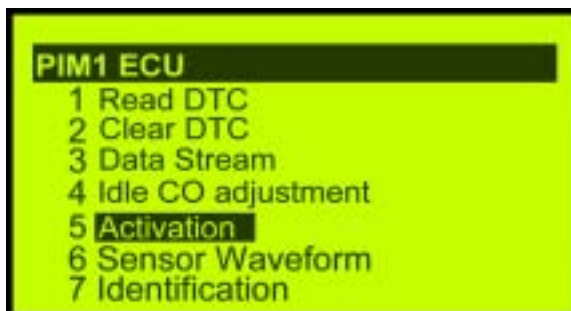

Fig 28
8. With the ▲▼ cursor to select “5 operation test” function, press “ENTER” key to enter into “5. re-set/Zero setting command” main function menu. (as fig 28)